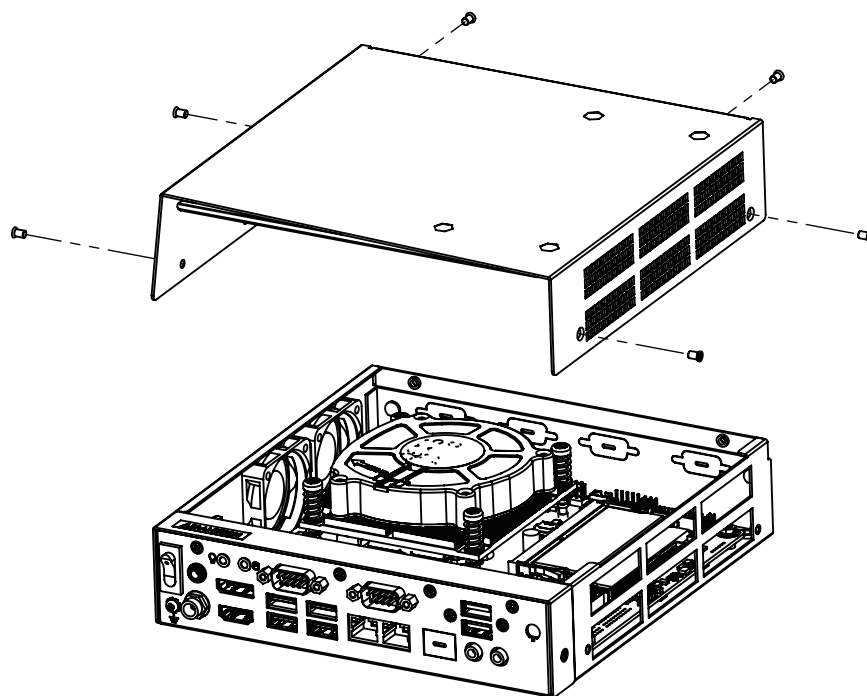

Figure 2.1 Open the Chassis Cover / 打开机箱顶盖 / 打開機箱上蓋
- Figure 2.1 Open the Chassis Cover /打开机箱顶盖/打開機箱上蓋